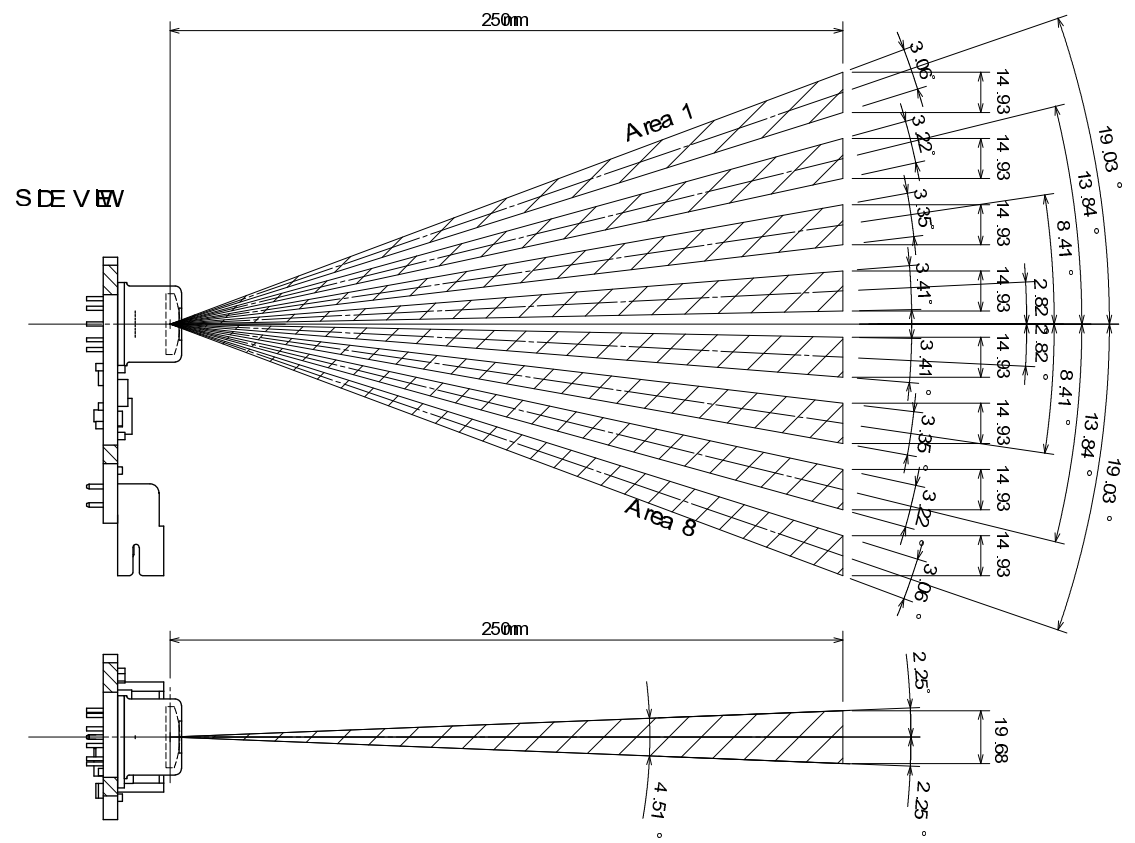

Fig. 3 : Detection Area
4.6. Detection Area	See Fig. 3